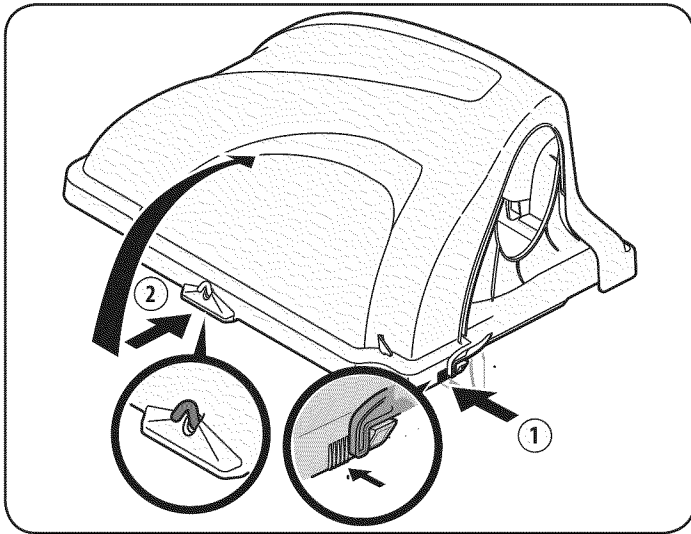

Figure 12
13. Open hood by pushing in on the rear, right-side tab with your right hand, as seen in 1 of Figure 12, and lifting the cover with your left hand in the center rear of the bagger cover, 2.